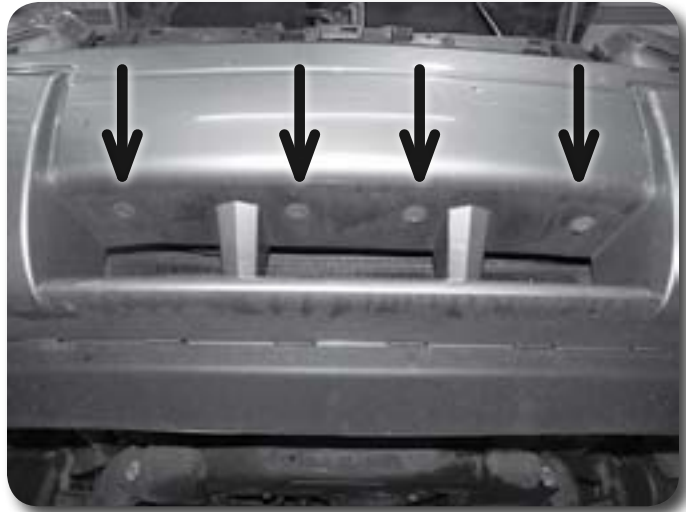

Figure 3
6. Remove the four bolts from the bottom/center of the front bumper cover **Figure 3**. Save bolts. Remove the front bumper cover from the vehicle by pulling straight forward.